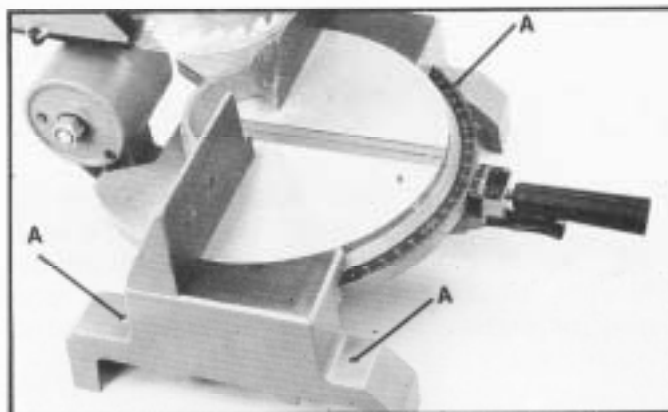

Fig. 9
IF DURING OPERATION THERE IS ANY TENDENCY FOR THE MITER BOX TO TIP OVER, SLIDE OR WALK ON THE SUPPORTING SURFACE, THE MITER BOX MUST BE SECURED TO THE SUPPORTING SURFACE USING THE FOUR HOLES, THREE OF WHICH ARE SHOWN AT (A) FIG. 9.